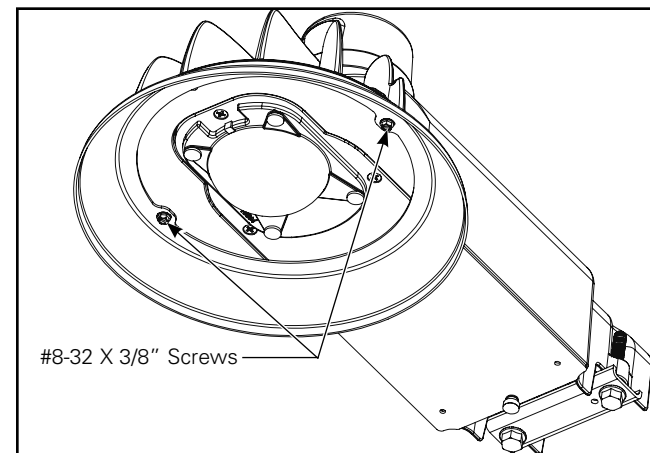

Figure 11.
1. Insert provided thread forming screws into mounting holes. Tighten to 12-14 in-lbs. (Figure 11.)